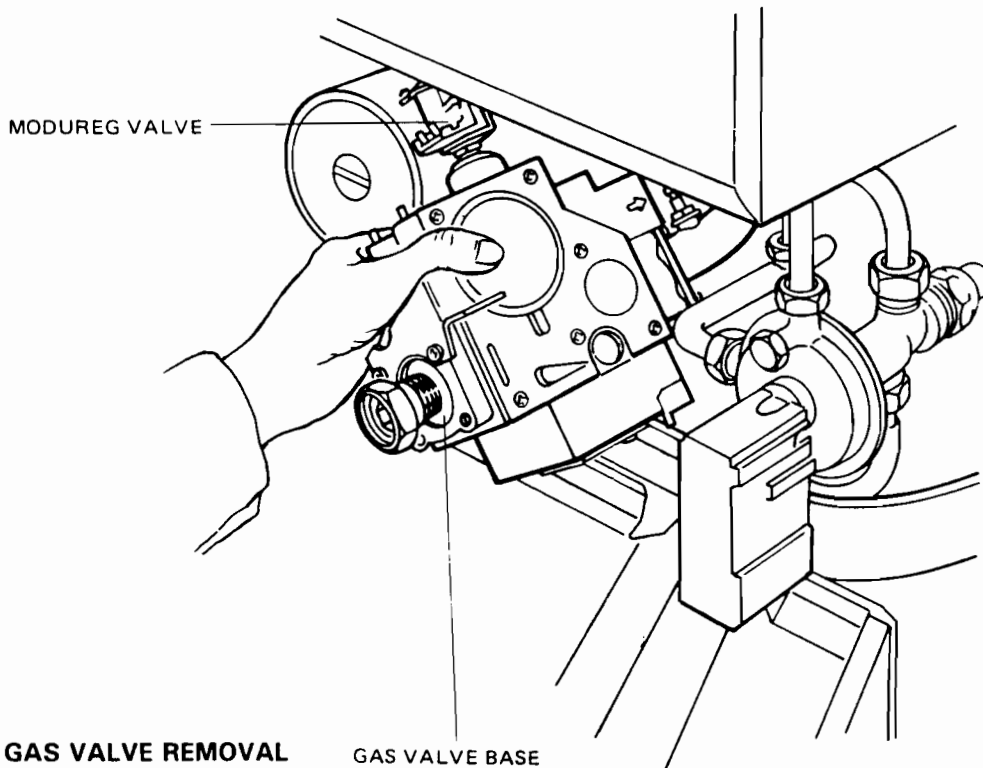

FIG. 36 GAS VALVE REMOVAL
## 19. GAS CONTROL VALVE AND FIRST SOLENOID VALVE (see Fig. 36)
- e) Undo the Union nut on the gas service cock and lift the gas valve assembly clear of the gas service cock. Pull the gas control forwards so that the assembly passes between the horizontal flow pipe and the control panel support frame. See Fig. 36.